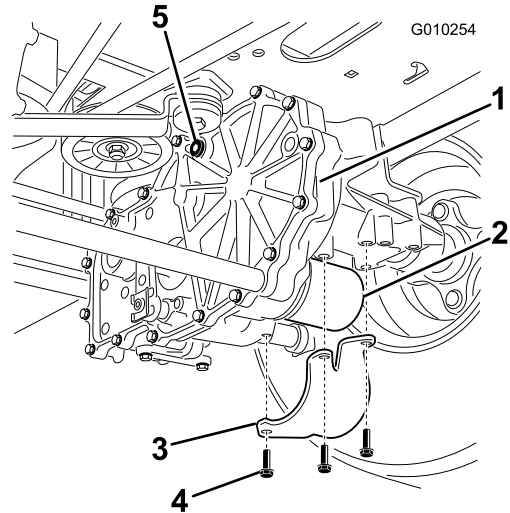

Figure 49
2. Locate the filter and guards on each transaxle drive system and remove the 3 screws securing the filter guard (Figure 49).